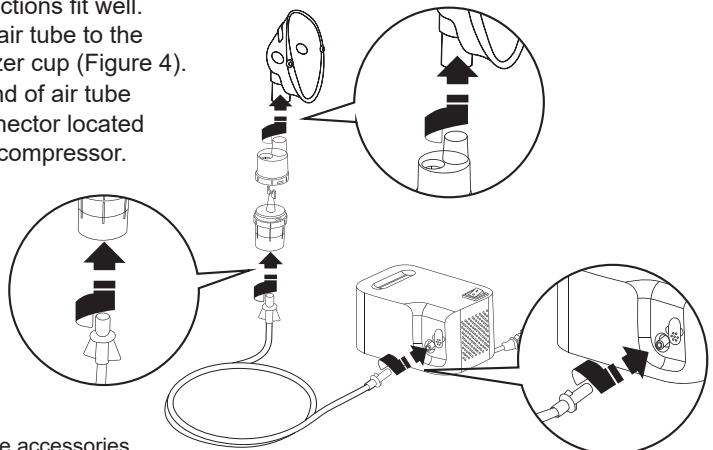

Figure 4:
- Attach one end of air tube to the base of the nebulizer cup (Figure 4).